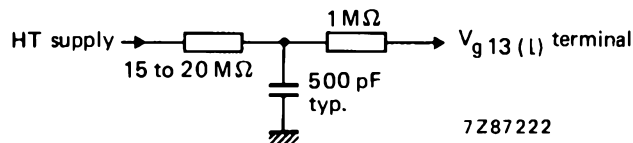

Fig. 7.
1. These values are valid at cut-off of both flood guns and the writing gun. The H.T. unit must be capable of supplying 0,5 mA. To protect the tube against excessive surge current during erasure, an RC-network as shown in Fig. 7 must be connected in series with the screen terminal lead; the resistance of 15 to 20 M Ω includes the internal resistance of the H.T. supply.